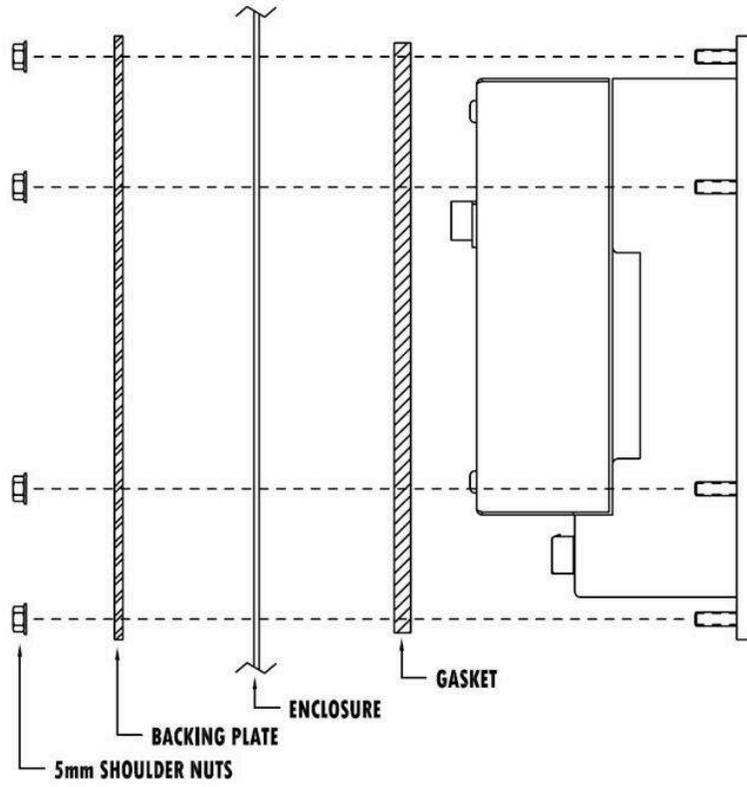

Figure A-7: Panel Mounting, Side View
3. Place the terminal through the cutout from the front and secure by fitting the backing plate over the back of the terminal, then installing and tightening the eight nuts until secure. Figure A-7 shows a side view of a panel installation.